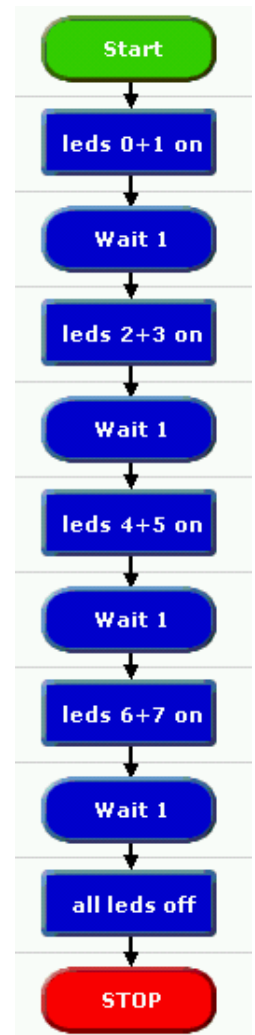

Fig 1. This program will switch on the LEDs on the T-board in pairs, at one second intervals; then switch them all off.
3. Continue to build up the program as shown in Fig 1. Place a Stop command at the end.
1. Start with the program shown in Fig 1. Delete the Stop command.